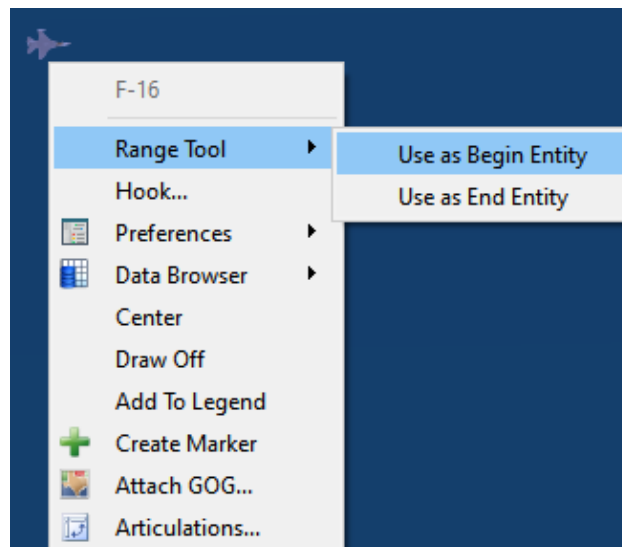

Figure 5.55: Range Tool's Right-Click Menu
- While the **Range Tool** is open, you can **right-click** an entity and set it as either **Begin Entity** or **End Entity**, shown in Figure 5.55.